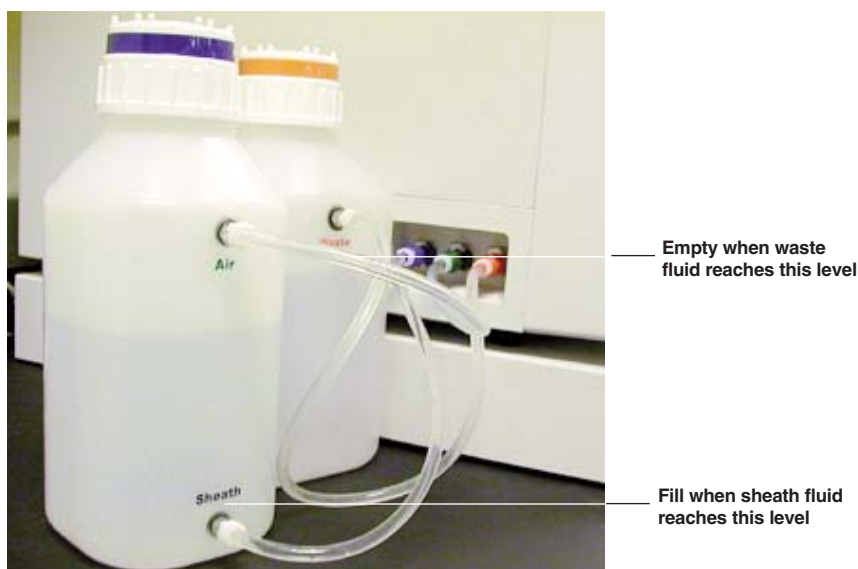

Fig. 13. Waste and sheath fluid bottle connections.
3. Fill the sheath fluid bottle with sheath fluid supplied in the 20 L cube container (catalog #171-000055) to just below the air intake and tighten the cap. (Figure 13)